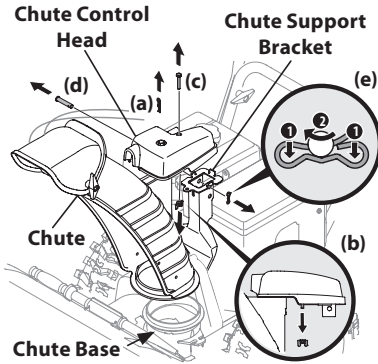

Figure 2-39
1. Remove cotter pin (a), wing nut (b) and hex screw (c) from chute control head. Remove clevis pin (d) and bow-tie cotter pin (e) from chute support bracket. See Figure 2-39.